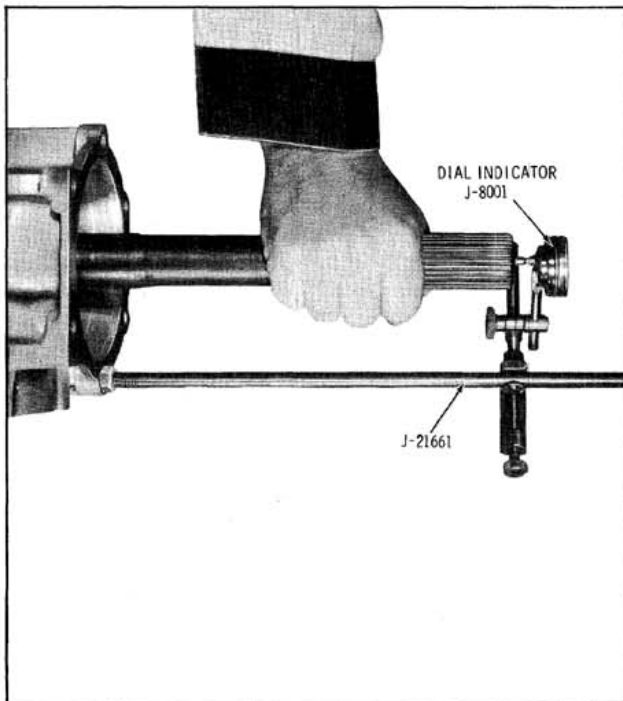

Fig. 6-69 Checking Rear Unit
10. Check rear end play as follows: (Fig. 6-69)